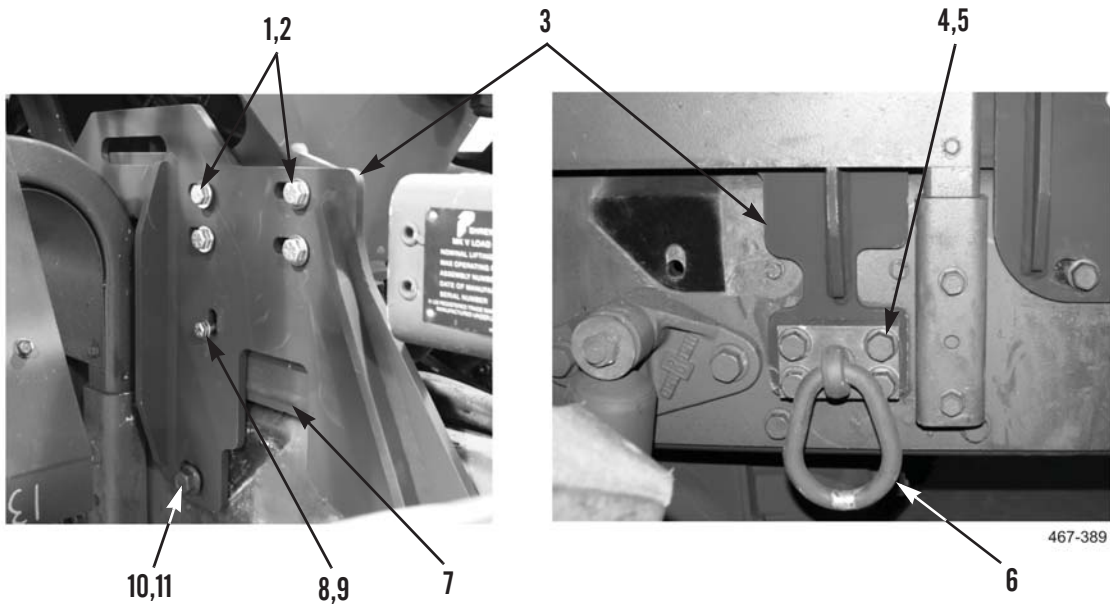

Figure 23. Tighten HEMTT Bolts.
3. Tighten 12 bolts (Figure 23, Item 1) and nuts (Figure 23, Item 2) securing stowage assembly to support brackets (Figure 23, Item 3).
4. Tighten four bolts (Figure 23, Item 8) and nuts (Figure 23, Item 9) securing spacers (Figure 23, Item 7) to support brackets (Figure 23, Item 3).
5. Tighten eight bolts (Figure 23, Item 4) and nuts (Figure 23, Item 5) securing tiedown links (Figure 23, Item 6) to frame.
6. Tighten six bolts (Figure 23, Item 10) and nuts (Figure 23, Item 11) securing support brackets (Figure 23, Item 3) to frame.